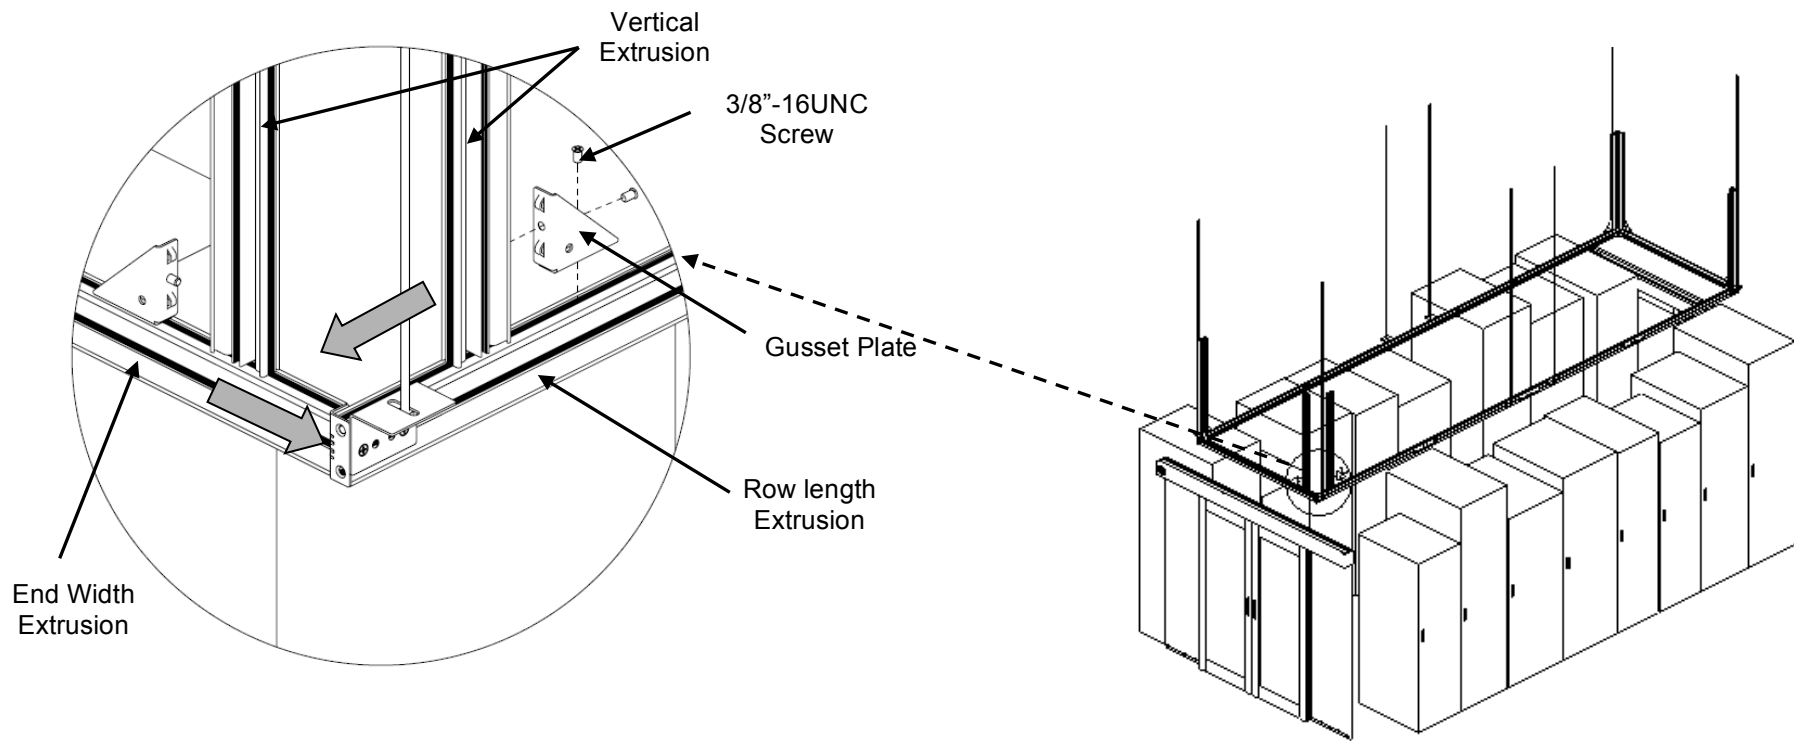

Fig. 12
14. Install Extrusion vertically at the each end of Row length Extrusion and End width Extrusion with Gusset plate using 3/8"-16UNC Screws (Fig. 12).